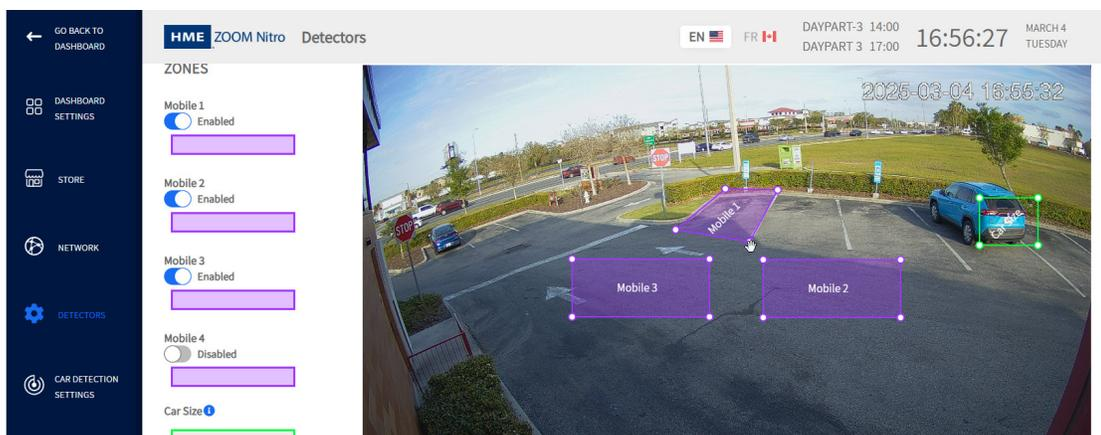

Fig. 24
7. The bounding box has four adjustable anchor points, one on each corner. After moving the box into a parking space grab any corner and adjust the box to match the parking space. See Mobile 1 in Fig. 24.